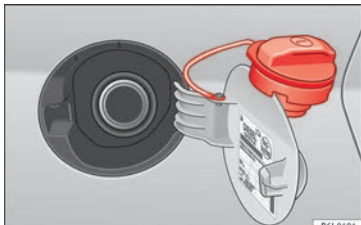

Fig. 51 Fuel tank flap with tank cap attached.
- Rest it on the upper part of the fuel tank flap » Fig. 51.